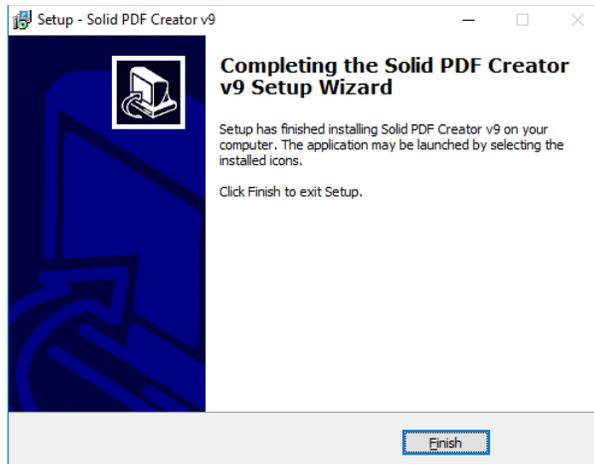

Figure C-4 Solid PDF Creator Setup
- 6) Click *Finish* to finish installing the Solid PDF Creator. See Figure C-4